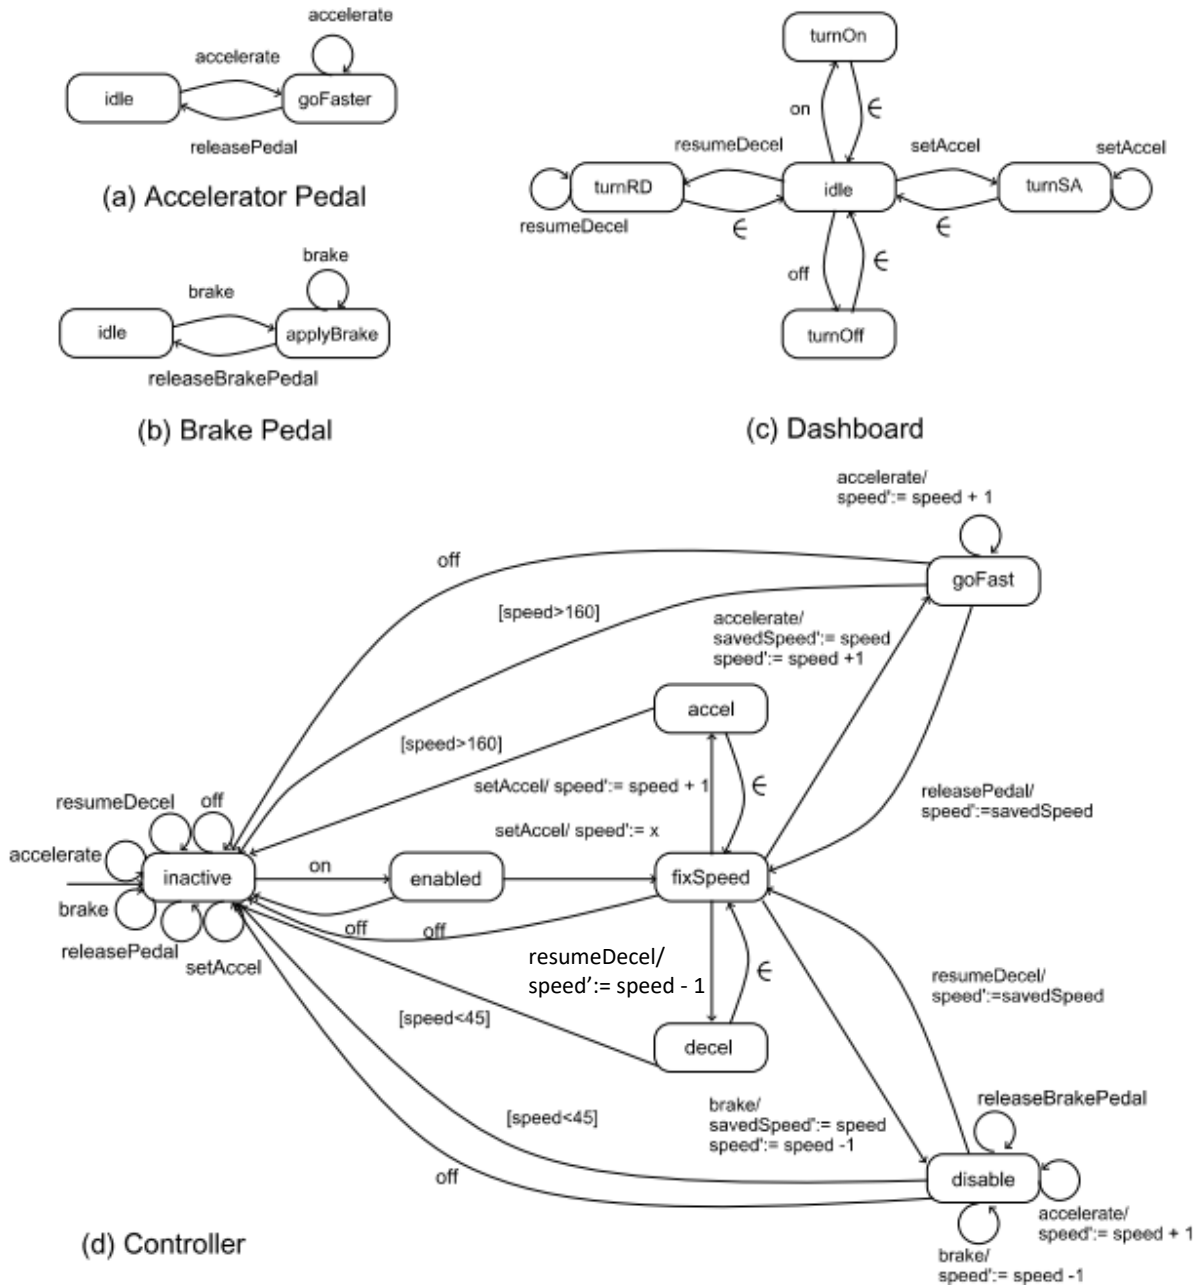

Fig. 7.7 Cruise control system
The cruise control system (CCS) in a car is a multi-function computer system which automatically manages the speed of the car. It consists of four parts: Accelerator pedal (AP), Brake pedal (BP), Dashboard (DB), and Controller (CO). By stepping on to the AP the vehicle goes faster, and by releasing the pedal the vehicle slows down. So, AP has two states, which are named idle and goFaster as in Fig. 7.7(a). The transition specifications are:
BP has two states corresponding to 'brake is not applied' and 'brake is applied' as in Fig. 7.7(b). Its transition specifications are similar to that of AP.
The complete behavior of DB is shown in Fig. 7.7(c). When CCS in the car is activated through DB the controller, CO manages the correct behavior of CCS. When the accelerator pedal is pressed, CCS is disabled and the speed increases. When the accelerator is released, the CCS resumes at its last set speed. If at any point of time during acceleration the CCS speed is set, CCS replaces the old set speed with the new speed. The controller CO has the following safety features:
Figure 7.7(d) shows the extended finite state machine of the controller for CCS. Note, the transition specifications, as shown in the figure, can be written down. The behavior of CCS is the combined behavior of the four state machines shown in Fig. 7.7.